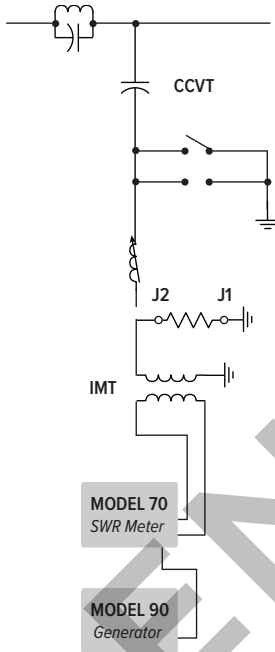

FIG 3 - IMT TEST CONNECTIONS
7. Connect the Model 730 test box white terminal (J2) to the output of the impedance matching transformer & the black terminal (J1) to ground (See Figure 3). This connects the test box for resistance only